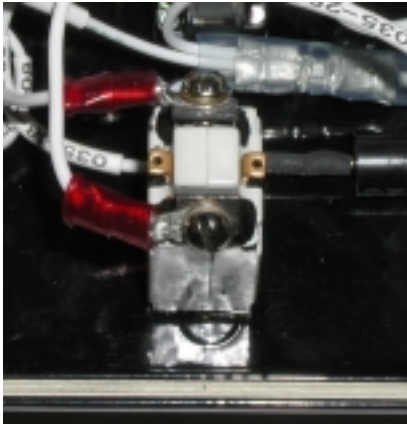

FIG. 2
4.4 Disconnect the Z03-036 Cable from the control box. Remove the 4 screws on the top plate and open the Control Box. Take care not to dislodge or damage the rubber gasket in the top plate. If both of the wires that attach to the 5A circuit breaker are on the same side (See FIG.2) the outside wire lug must be relocated.